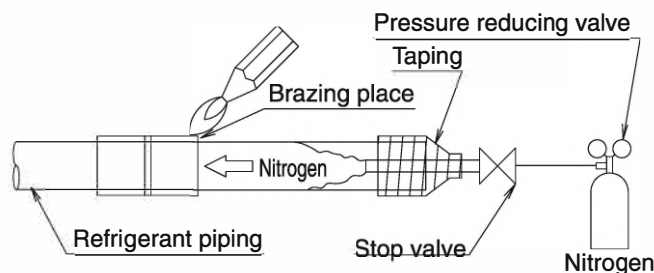

Fig. 9
- Use the insulation for fitting (3) and (4) provided to the liquid piping and gas piping, respectively and conduct heat insulation work. (Tighten both edges of the insulation for fitting (3) and (4) for each joint with clamp (7).)
- Make sure that the joint of the insulation for fitting (4) and (5) for the joint on the liquid piping and gas piping side faces upwards.
- Wrap the middle sealing material (6) around the insulation for fitting (3) and (4) for the joint (flare nut part).
- Before brazing refrigerant piping, have nitrogen flow through the refrigerant piping and substitute air with nitrogen (NOTE 1) (Refer to Fig. 9). Then, carry out brazing (NOTE 2).